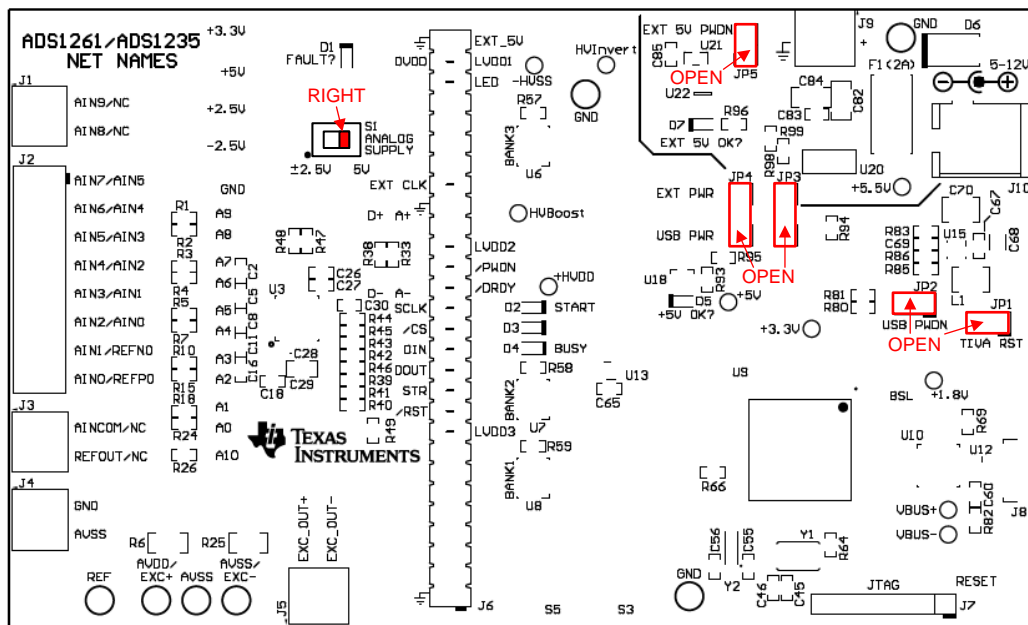

Figure 1. Default Configurations for ADS1261 and ADS1235 EVM
The EVM is configured with the settings listed in Table 2 and illustrated in Figure 1.
4. Ensure all jumpers and switches are configured in the default configuration per Table 2 and Figure 1.